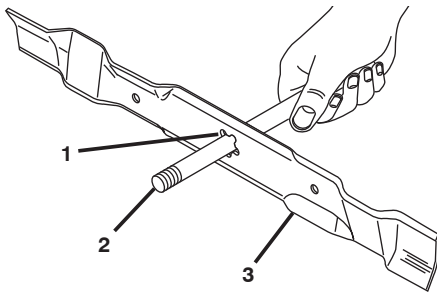

Figure 21
1. Slide blade on to an unthreaded portion of the steel bolt or pin and hold the bolt or pin parallel with the ground. If blade is balanced, it should remain in a horizontal position. If either end of the blade moves downward, sharpen the heavy end until the blade is balanced (Figure 21).